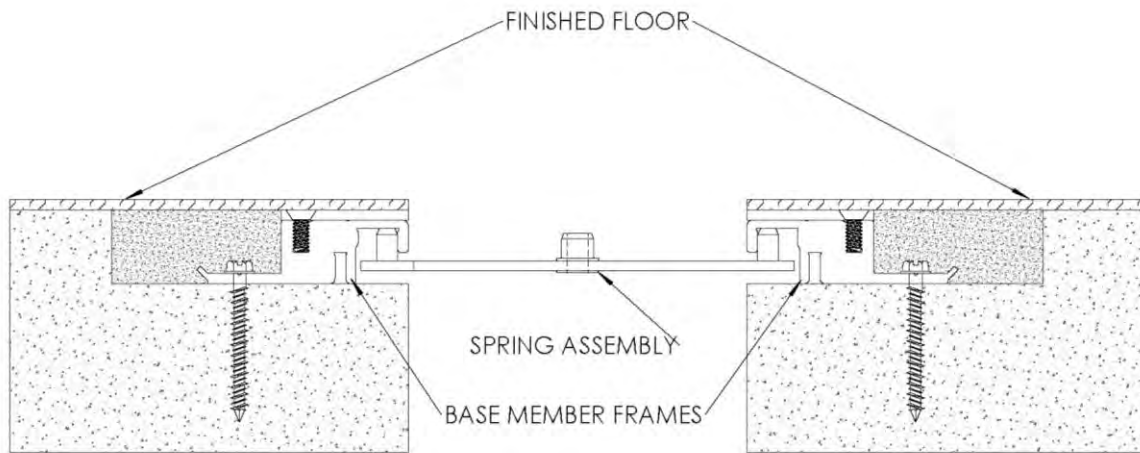

FIGURE 4
4. Lay cover plate over the left side of the finished floor with ends flush and mark the cover plate center holes onto the finished floor near the inside edge. Repeat this on the right side. Position the spring assembly in the spring track on the base frames. This is done by sliding the spring assemblies in from the ends of the frames and aligning them with the marked locations. The spring assemblies will be diagonal to the opening. Tape may be needed to hold the spring assembly in place. **See Figure 4**